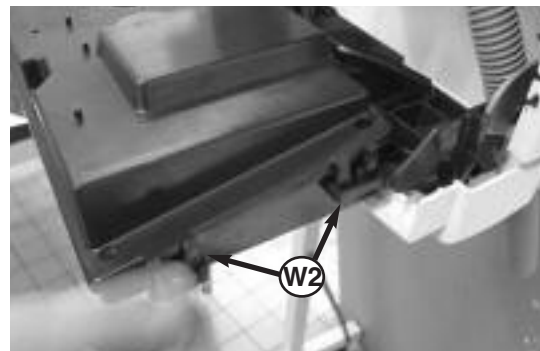

Fig. 100
2. Pull off the NTC connections. Then remove the NTC from the pipe by releasing its securing clip (see Fig. 100).
3. Release the three clips **W2** and remove the electrical box cover (see *Fig. 100*);